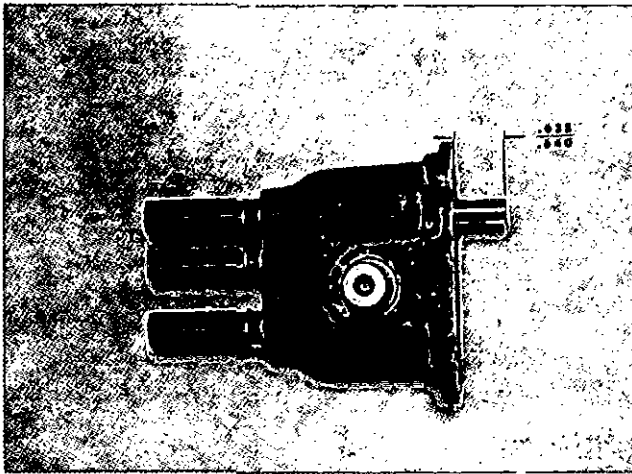

Fig. 4-18, (F554). Adjust the screw protrusion.
4. The long adjustable screw protrusion in the cover must be 0.635 to 0.640 inch [16.13 to 16.26 mm] from the cover, Fig. 4-18.